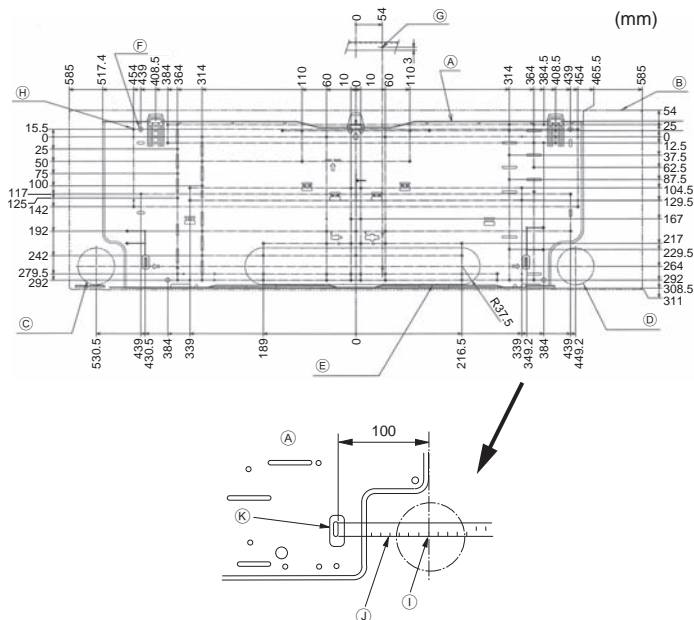

Fig. 3-2
■ PKFY-P-VKM-E (Fig. 3-2)
- Ⓐ Mount board ①